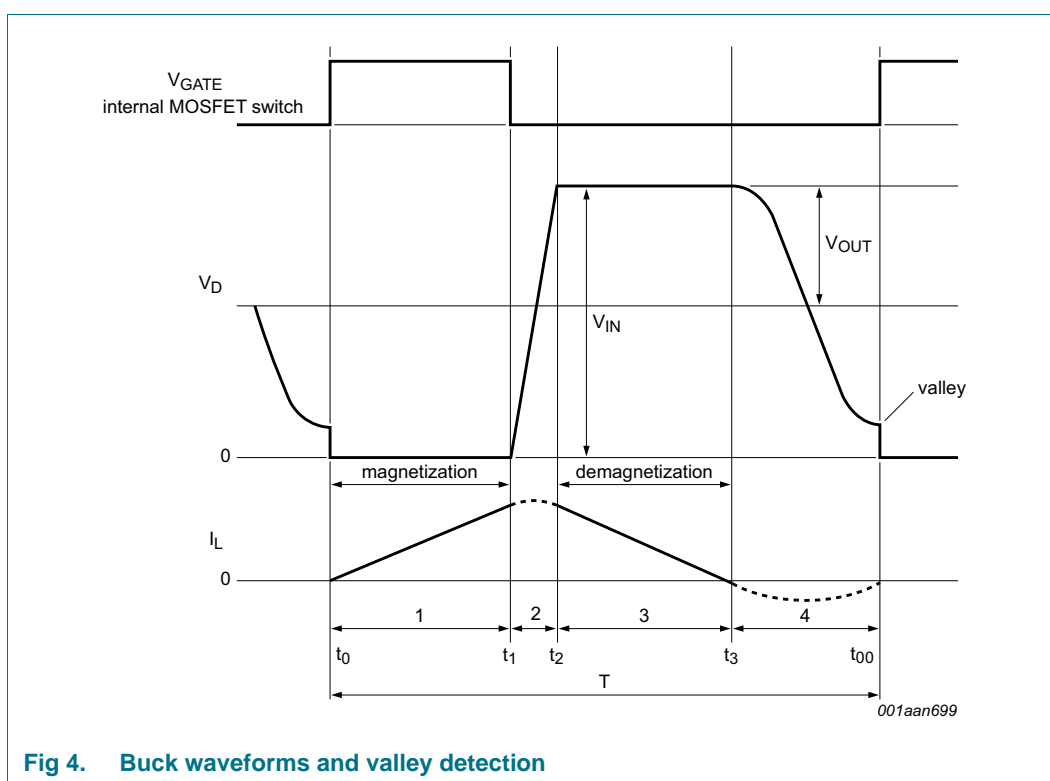

Fig 4. Buck waveforms and valley detection
The converter in the SSL21083T is a Boundary Conduction Mode (BCM), peak current controlled system. Figure 3 shows the basic application diagram. Figure 4 shows the waveforms. This converter type operates at the boundary between continuous and discontinuous mode. Energy is stored in inductor L each period that the switch is on. The inductor current  $I_L$  is zero when the internal MOSFET switch is switched on. Thereafter, the amplitude of the current build-up in L is proportional to  $V_{IN} - V_{OUT}$  and the time that the internal MOSFET switch is on. When the internal MOSFET switch is switched off, the current continues to flow through the freewheel diode and the output capacitor. The current then falls at a rate proportional to the value of  $V_{OUT}$ . The LED current  $I_{LED}$  is almost equal to half the peak switch current. As soon as the inductor current  $I_L$  is zero, a new cycle is started.
A new cycle is started when the primary switch is switched on (see Figure 4). Following time  $t_1$ , when the peak current is detected on the SOURCE pin, the switch is turned off and the secondary stroke starts (3). When the secondary stroke is complete and the coil current at  $t_3$  equals zero, the drain voltage starts to oscillate around the  $V_{IN} - V_{OUT}$  level. The amplitude equals  $V_{OUT}$ . A special feature, called valley detection is an integrated part of the SSL21083T circuitry. Dedicated built-in circuitry connected to the DRAIN pin, senses when the voltage on the drain of the switch has reached its lowest value. The next cycle is then started and as a result the capacitive switching losses are reduced.